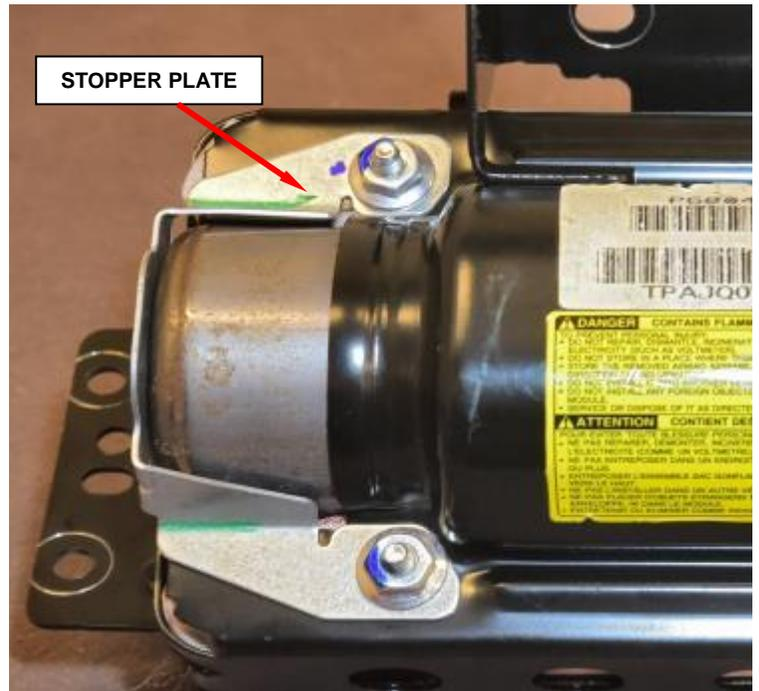

Figure 30 – Stopper Plate
- c. Remove and save stopper plate from housing (Figure 30).
- m. Position the stopper plate to the airbag housing (Figure 30).